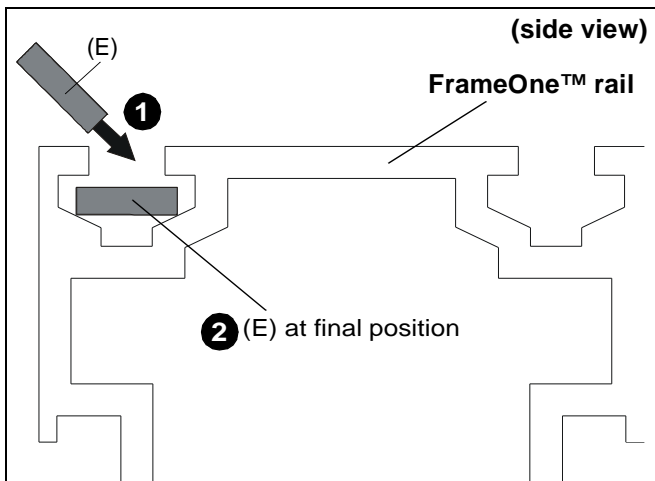

Figure 1
1. Drop channel plate (E) at an angle into front groove of FrameOne™ rail. (See Figure 1)
2. Make sure channel plate (E) lays flat in rail and slide plate until it is at desired mounting position. (See Figure 1)